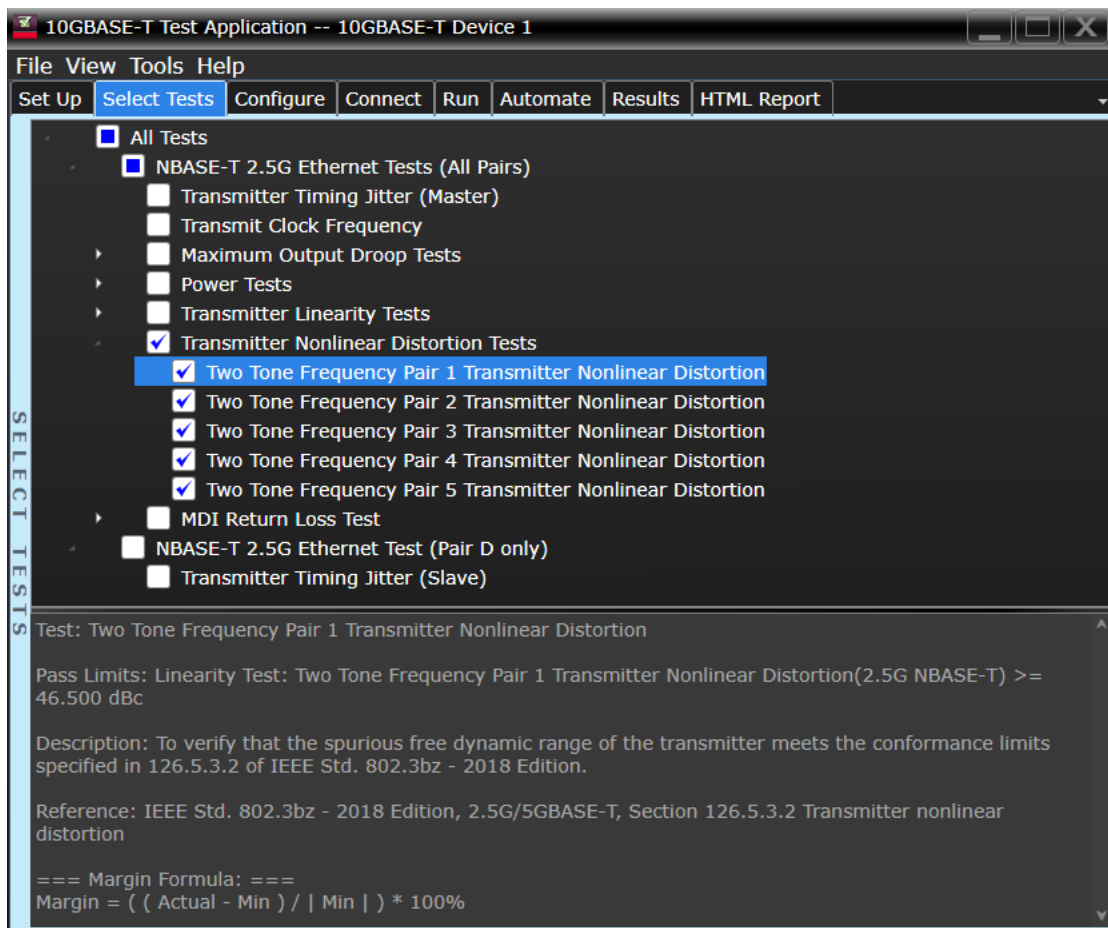

Figure 38 Selecting Transmitter Nonlinear Distortion tests
- 19 Click the **Select Tests** tab and check the tests you want to run, as shown in Figure 38. Check the parent node or group to check all the available tests within the group.
- 16 Click the **Select Tests** tab and check the tests you want to run. Check the parent node or group to check all the available tests within the group, as shown in Figure 38.
Figure 38 shows the tests available under the **Transmitter Nonlinear Distortion tests** group of the **Select Tests** tab.